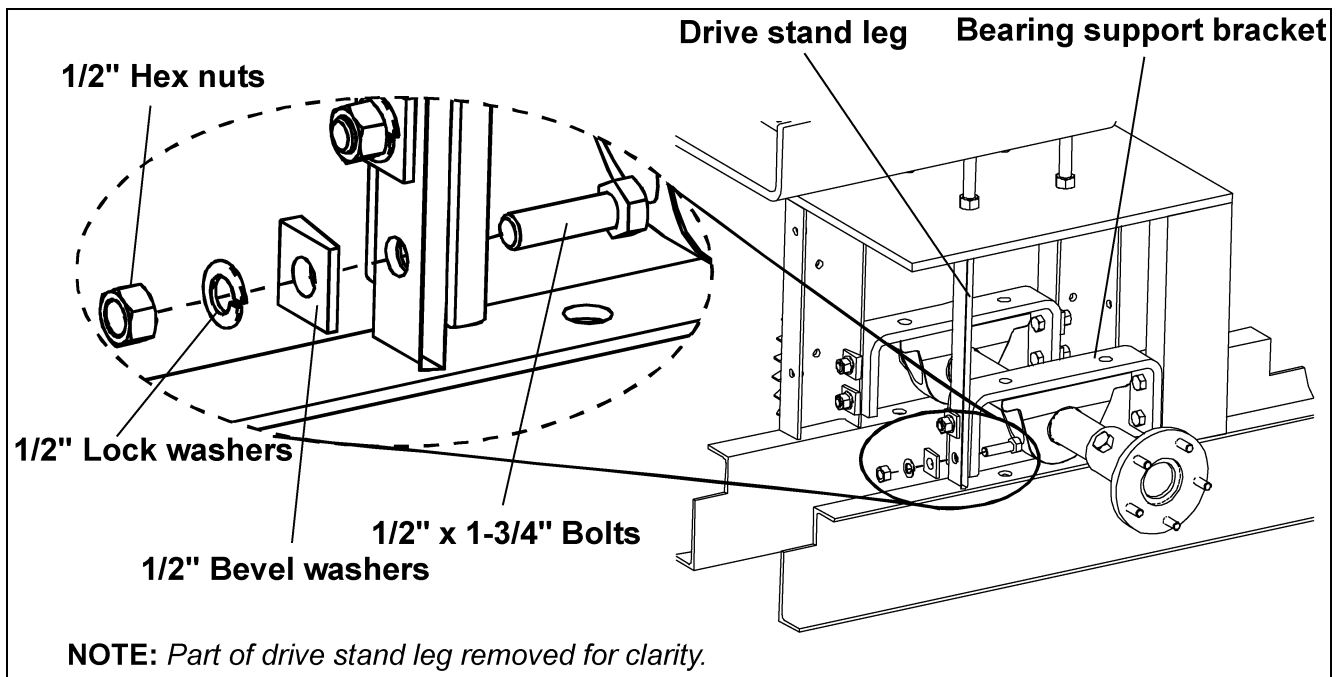

Figure 5K
- E. Bolt the bearing support brackets to the legs of the tractor drive stand using 1/2" x 1-3/4" bolts, 1/2" lock washers, 1/2" bevel washers and 1/2" hex nuts. (See Figure 5K.)